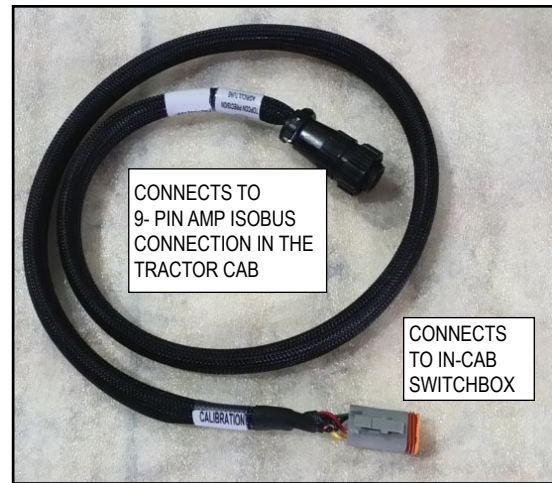

Figure 7- In-Cab SwitchBox Harness (3132-41)
Refer to *Figure 7*. This harness connects in-cab switchbox to 9-pin AMP ISOBUS connection in the tractor cab.
- j. Connect the end labeled "calibration" on the in-cab switchbox harness (3132-41, *Figure 7*) to the **Switchbox** and plug the other end into the 9-pin AMP ISOBUS connection (if it exists).